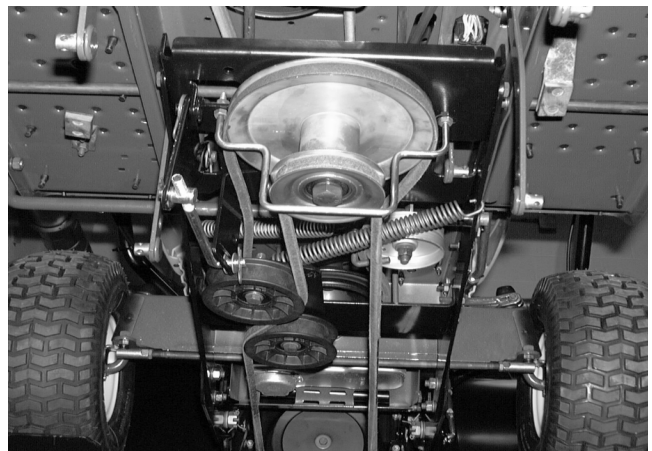

FIGURE 9.
37. Route the belt around idler pulleys and bottom pulley on rear idler bracket assembly. See figure 9.